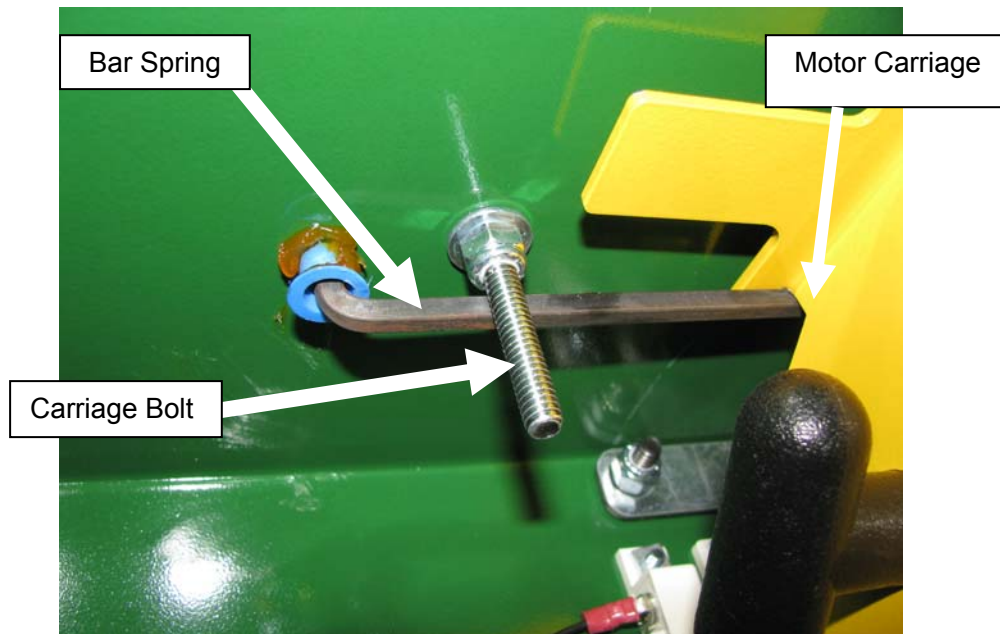

Fig 17
4. The short elbow at the end should face up toward the inside of the case top. Place a plastic cap on the tip of the elbow and apply a small amount of lubricant to the plastic cap to reduce friction resistance. **See Fig 17.**